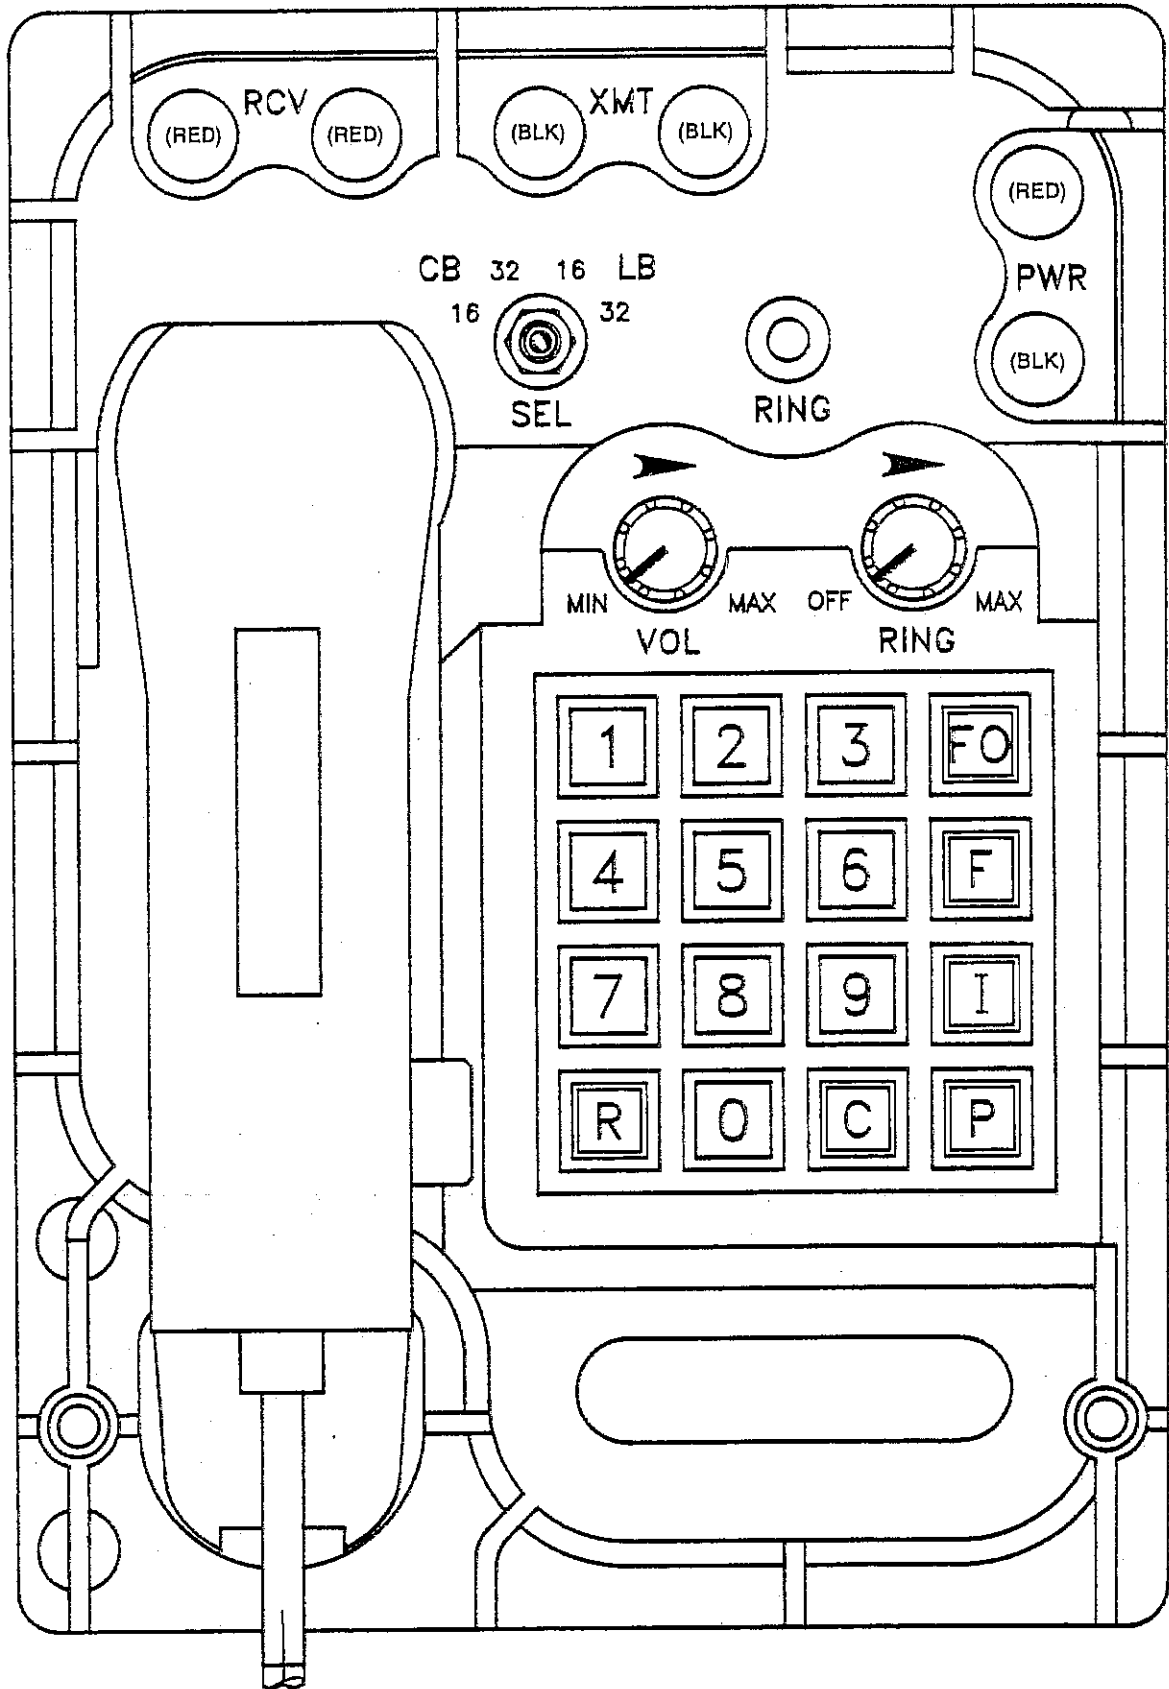

Figure 4-1. Controls and Indicators
- (1) Identify transmit field wires. Remove insulation from and connect transmit field wires to the black spring loaded binding posts labeled XMT on top side of the DNVT.
- (2) Identify receive field wires. Remove insulation from and connect receive field wires to the red spring loaded binding posts labeled RCV on top side of the DNVT.
- (3) Using a common straight blade screwdriver, turn select switch labeled SEL to position labeled LB (16 or 32) on top side of the DNVT.
- (4) Connect an external power source (5.5-28 VDC, 75 milliamp) to the PWR binding posts. Positive lead of power source attaches to the red binding posts, negative lead of power source attaches to the black binding posts. (See figure 4-1.) If the local termination is a time division multiplexer (TDM) the local battery power is available via the loop modem card in the TDM. In this case the LB power is provided via the XMT/RCV connections.
4-2. **OPERATING CONTROLS.** The controls and indicators listed in table 4-1 are used by the operator to control the function of the DNVT. All controls are located on the front panel of the DNVT. (See figure 4-1.) The function of each control is presented in the following paragraphs.